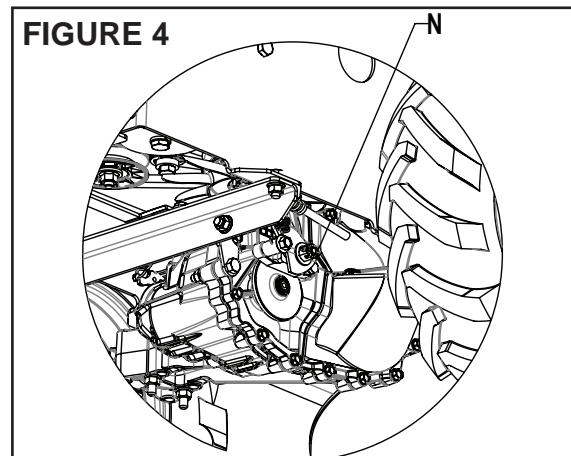

FIGURE 4
3. Remove the cotter pin from the brake adjusting castle nut **N**. (Figure 4) Tighten the nut 1/6 of a turn at a time. Check the adjustment each time until the wheels lock up with the brake 'ON' and the linkage has free 'play' in the 'OFF' position. When a satisfactory adjustment has been found, reinstall the cotter pin to maintain the position of the castle nut.